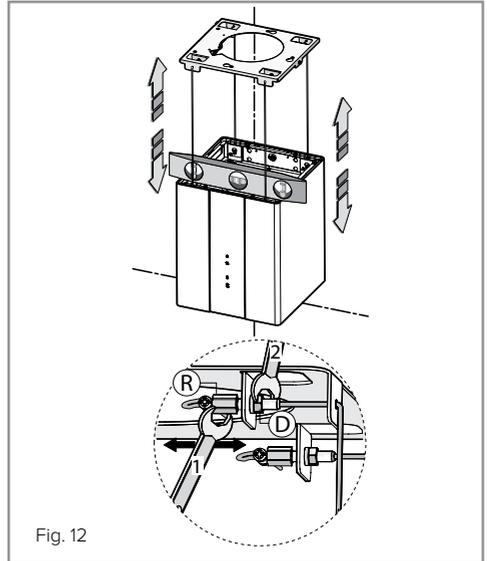

Fig. 12
8. Make any adjustments to the cable length, ensuring that the extractor is level. Using 2 x 8mm spanners, the extractor can be levelled using the adjustment system shown in Fig. 12.
9. Mount the mains connection box (S) to the ceiling support plate using the 2 supplied screws (D) and proceed to connect the appliance to the mains supply, as shown below. Once complete, secure the connection box lid with the 2 screws. If you are in doubt as to how to connect the appliance to the mains supply consult a qualified electrician.